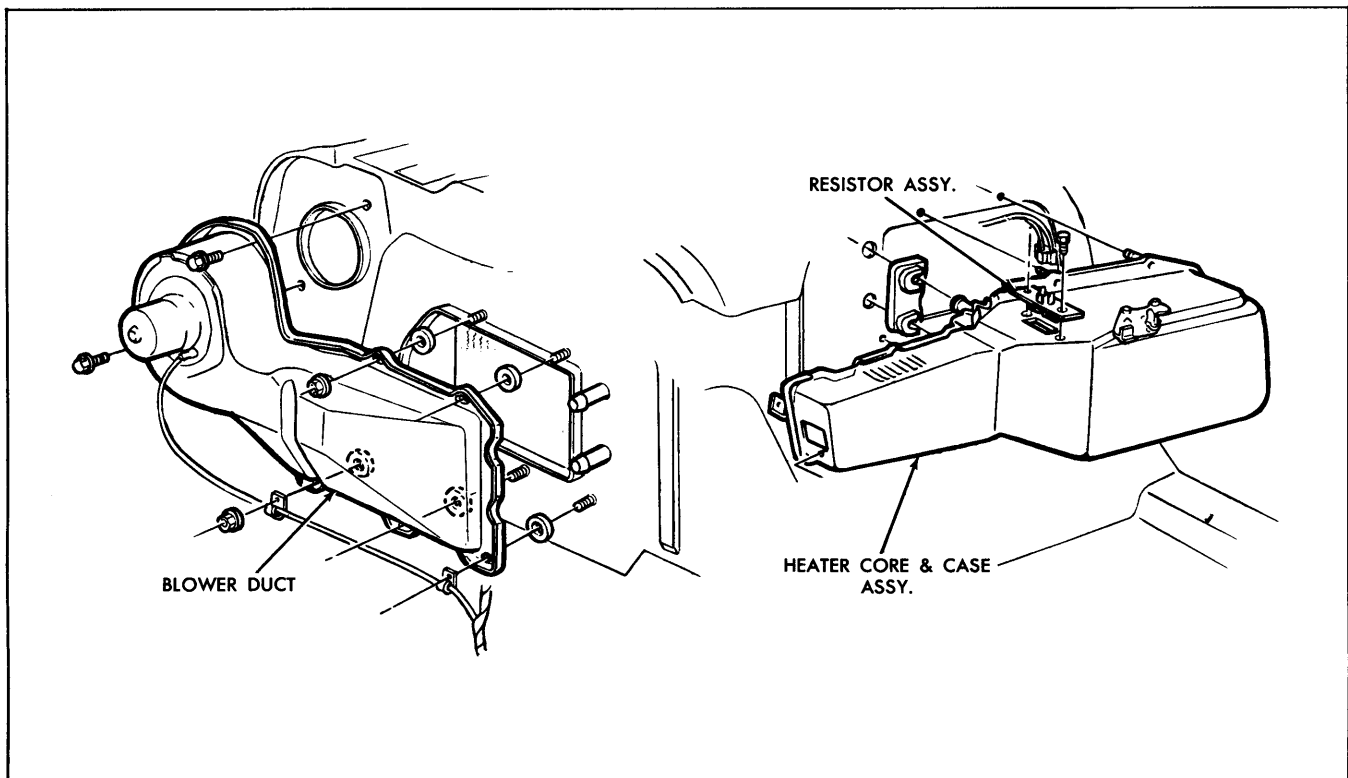

Fig. 1-3 Heater Blower and Air Inlet
1. Disconnect battery ground and positive cables, and remove battery and tray (Fig. 1-3).
For removal and installation of control panel refer to Fig. 1-3.